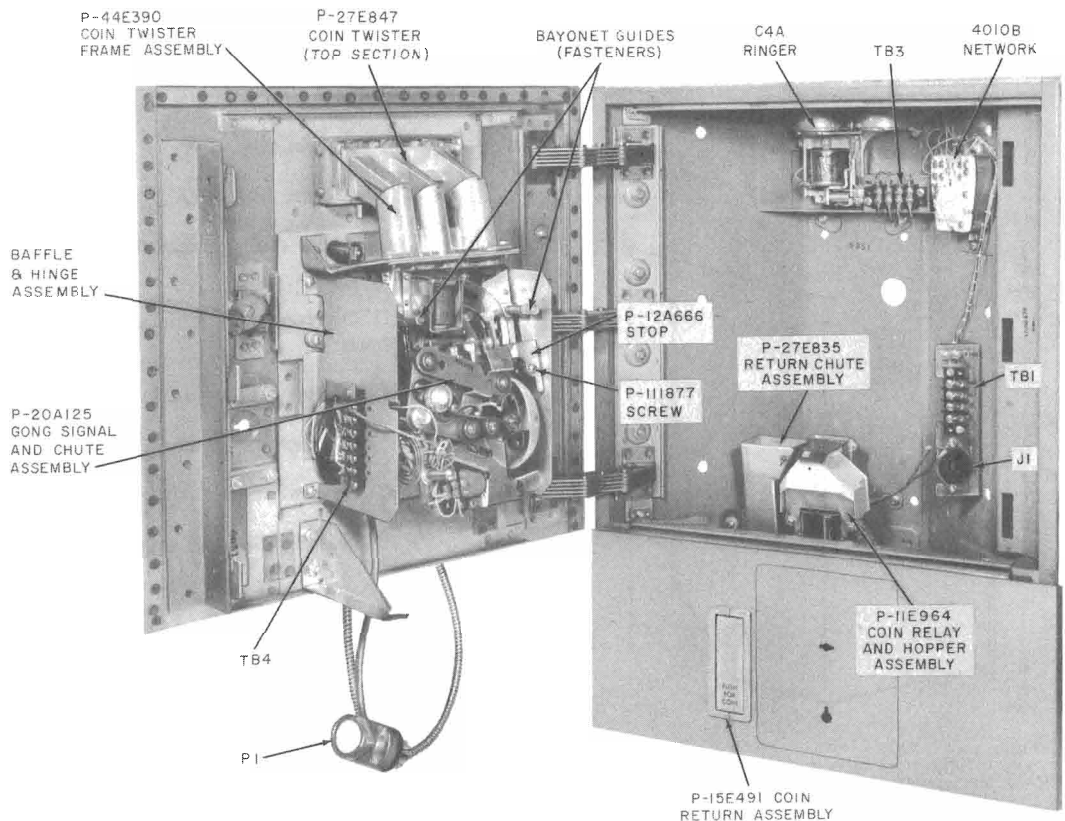

Fig. 5—235G or 1235G Coin Collectors—Interior View
2.01 *Replaceable Components for 235G (Fig. 5)*
2.02 *Replaceable Components for 1235G (Fig. 5)*